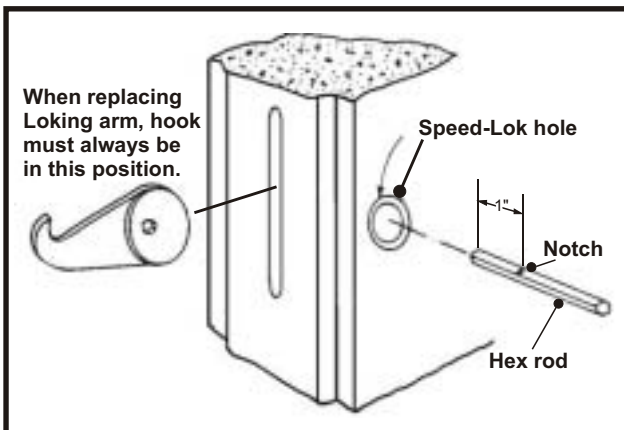

Fig. 6
4. Hold the new locking arm in position. Make sure the hook of the arm faces in the proper direction. See Fig. 6.